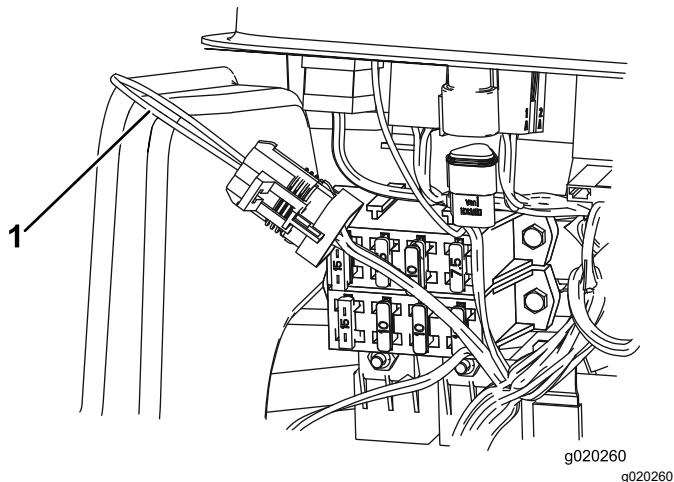

Figure 37
3. Locate the wire harness and loop-back connector (Figure 37).